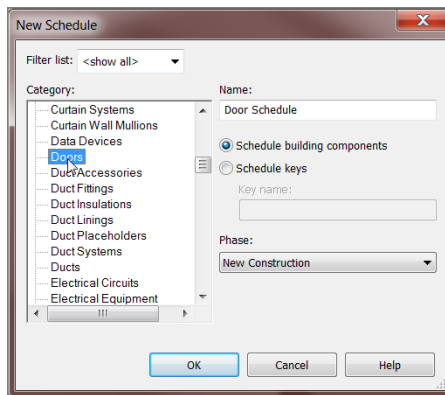

FIGURE 11.2: Select Doors, and click OK.
3. The next dialog box, as shown in Figure 11.2, allows you to choose which item you would like to schedule. Select Doors, and click OK.